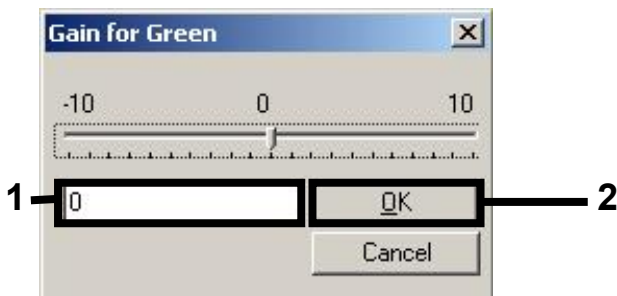

Figure 6. Manually entering the lowest gain values.
7. Select the lowest gain value for Cycling Green noted in step 4, and enter this value manually in the **Gain for Green** window (Figure 6). Select the lowest gain value for Cycling Yellow noted in step 4, and enter this value manually in the **Gain for Yellow** window (Figure 6).